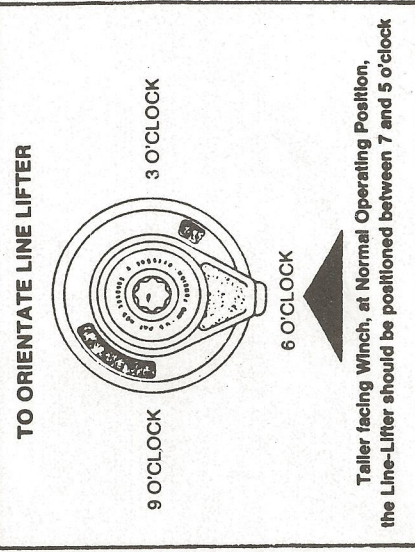

Fig. 1.
- Install the drum Assy. with the line lifter in suitable sheeting position over the gearbox Assy. (see fig. 1).
- Replace the retaining nut (18) and tighten firmly.